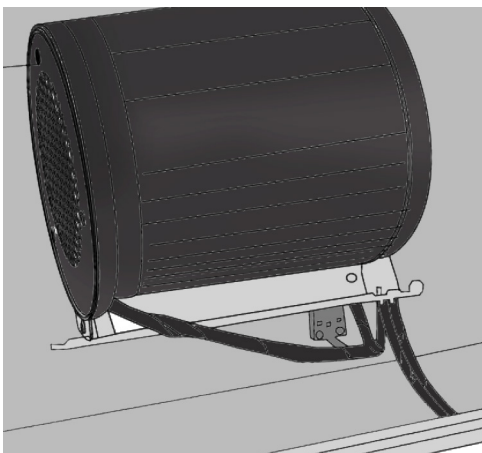

Figure 7
- Electric wire is located under the motor as you relocate the motor outlet (see Figure 7).